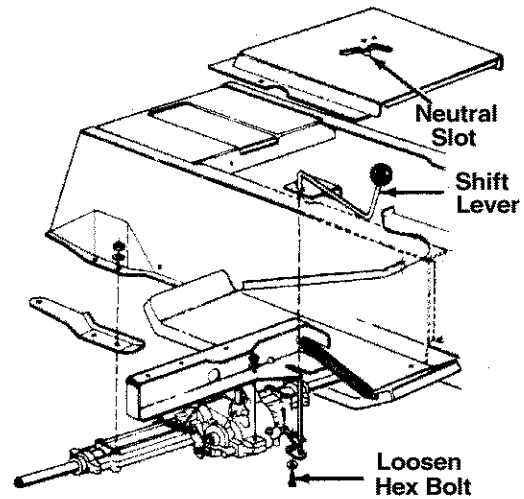

Figure 15
- Loosen the bolt which secures the shift lever assembly to the shift lever link. See Figure 15.
- Place the shift lever in the neutral slot. See Figure 15.